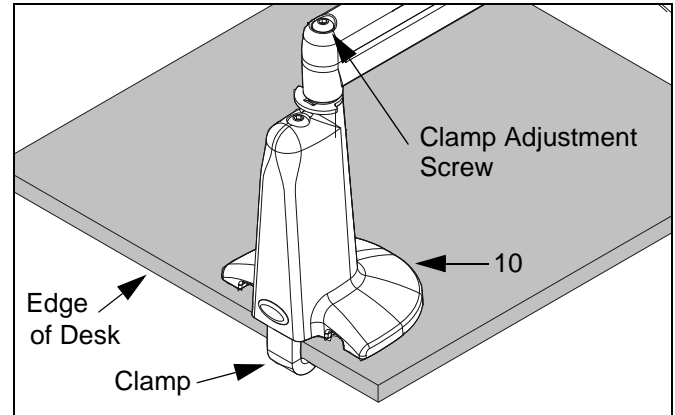

Figure 5: Desk Mount - Edge Installation
- Slip mount (10) over edge of desk so that clamp fully contacts desk edge. Using 3/16" hex key, securely tighten clamp adjustment screw (See Figure 5).